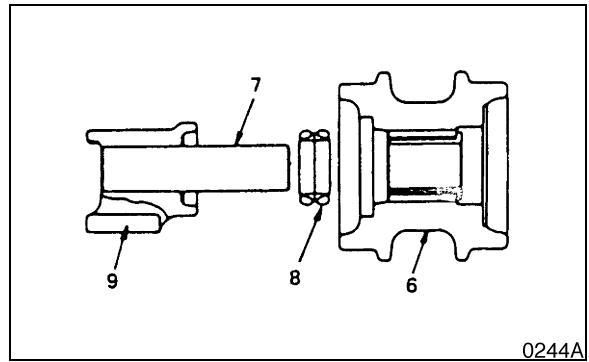

Figure 43
4. Separate the group seal (8, Figure 43) from the roller and bracket (9).